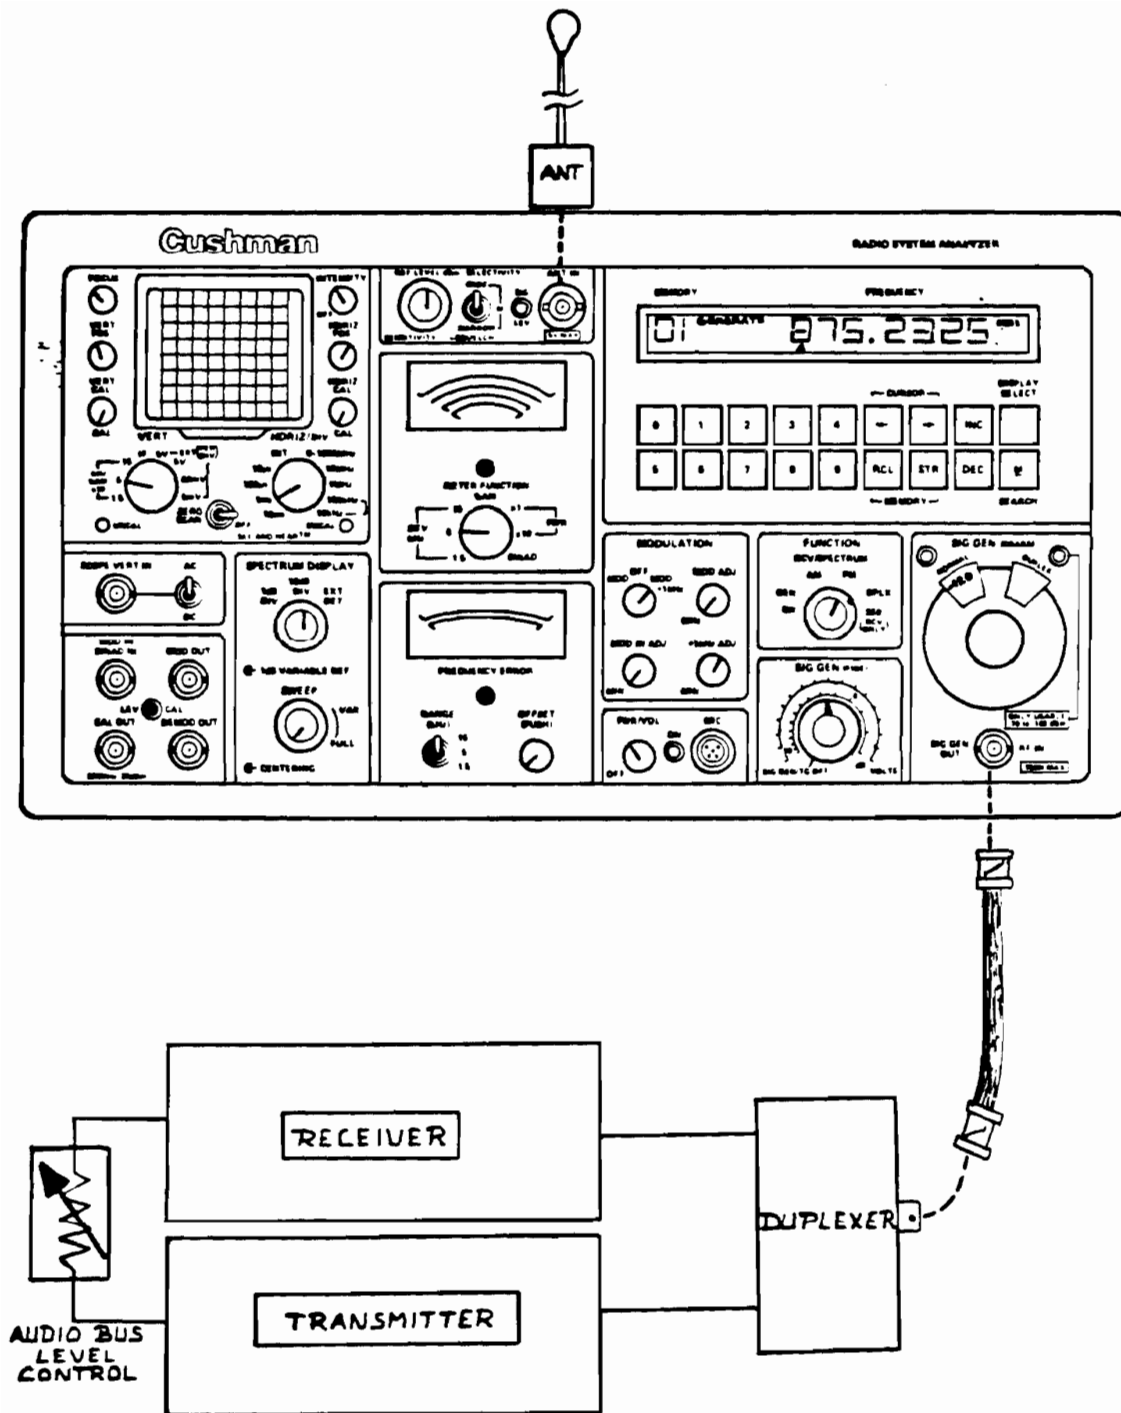

Figure 4-11. Repeater Duplex Test Set-up
- f. Attach the CE-6000 antenna to the ANT IN connector (not needed if Single-cable Duplex option OP-08 is installed). Connect the SIG GEN OUT/RF IN connector to the duplexer input. Refer to Figure 4-11.
- g. Set the SELECTIVITY switch to MEDIUM (M). Increase the SIG GEN (COARSE) and SIG GEN (FINE) control's output level until it keys the repeater transmitter, and the demodulated audio can be seen on the CRT (use only enough signal to unscquelch the receiver). If OP-08 is installed, the green DUPLEX LED above the SIG GEN (COARSE) control will light, indicating maximum output level is -70 dBm for single port duplex operation.